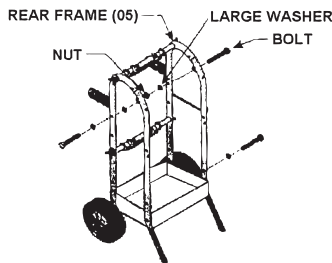

Figure 5. Tape Roll Holder Bolt Assembly
9. Insert one long bolt and large washer through the rear frame (as viewed from behind the wheels), using the hole located behind the hand grip. Place a large washer and nut onto the threads and tighten against the rear frame as shown in **Figure 5**.